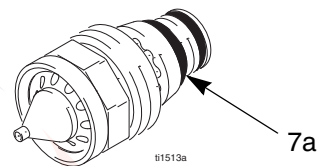

Fig. 10. Nozzle Conductive O-Ring
5. Make sure the metal contact (C) in the barrel, the nozzle contact ring (7a, FIG. 10.), and the electrode contact (E) are clean and undamaged.